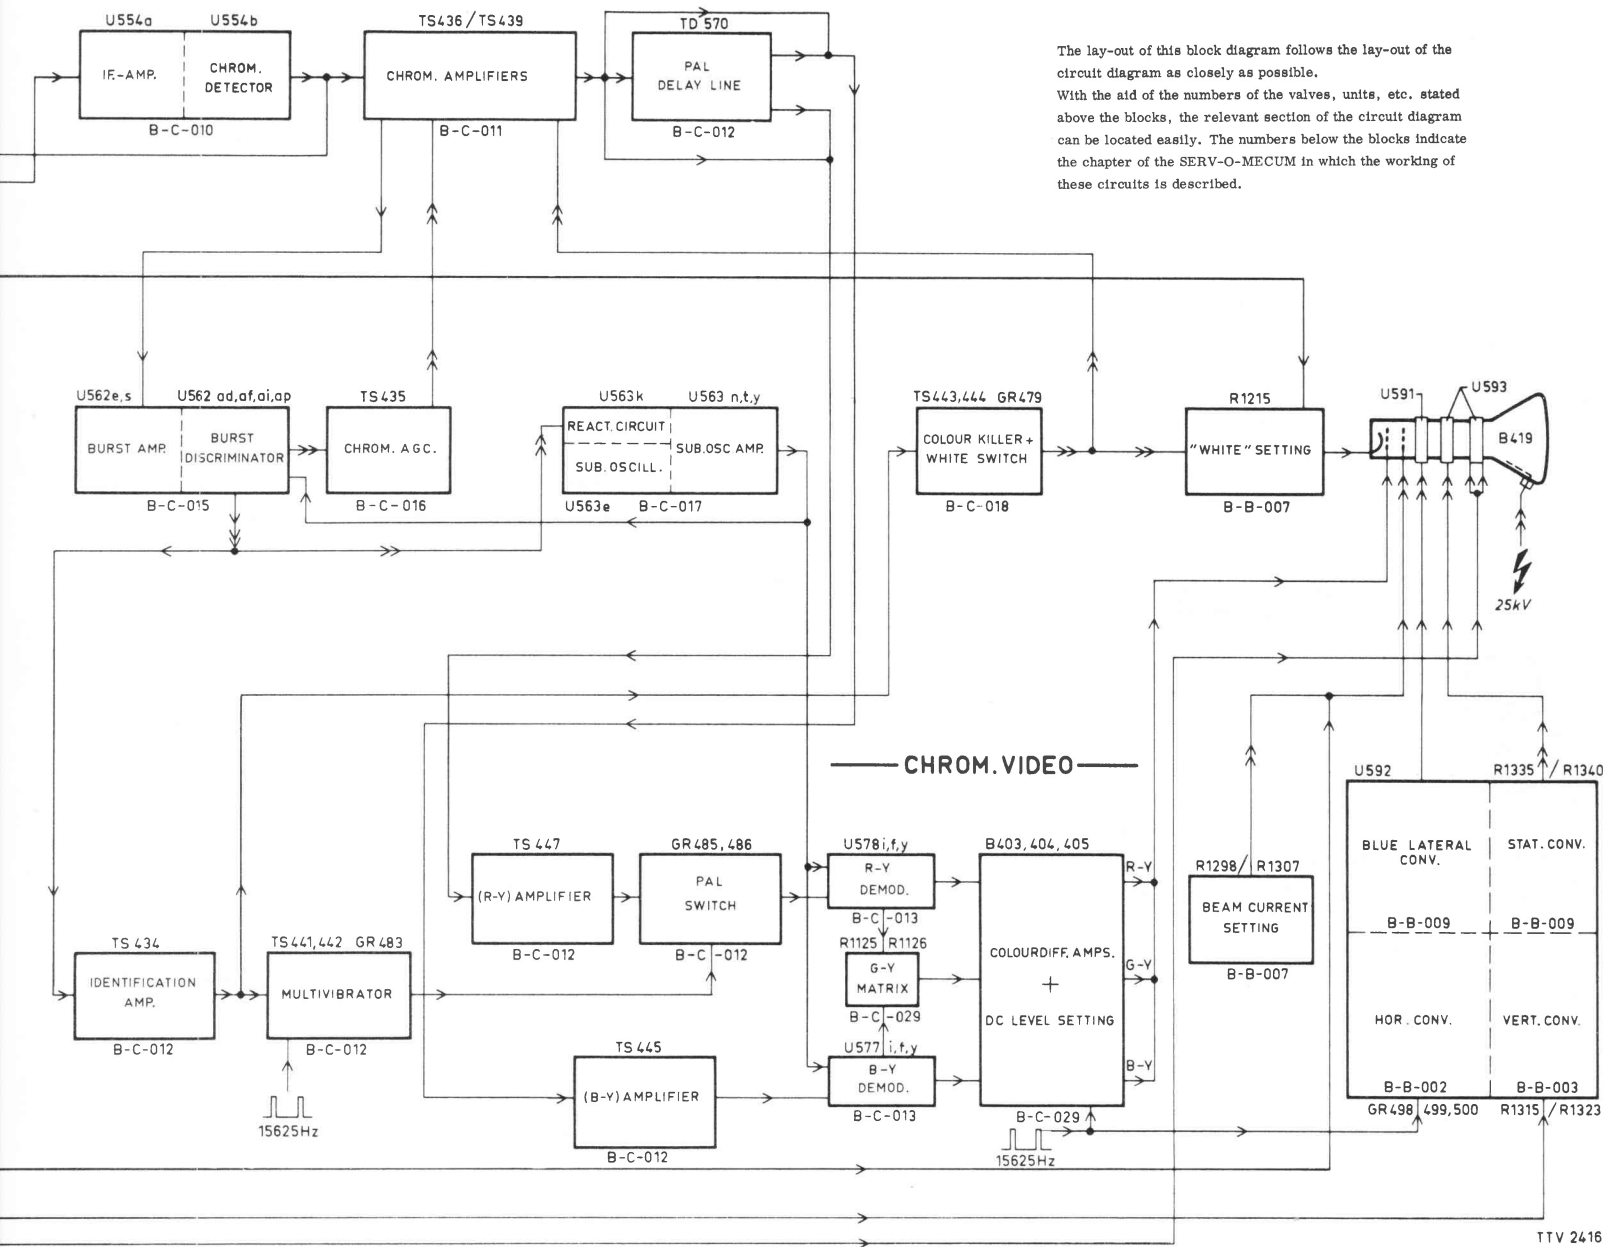

Fig. 3
1 Adjusting for a straight picture (see Fig. 3)
2 Focusing (see Fig. 3)
3 Pin-cushion correction (see Fig. 3)
4 Horizontal linearity (see Fig. 3)
5 Vertical linearity (see Fig. 3)
6 Picture height (see Fig. 3)
7. Static convergence (see Fig. 3)
- Switch off the blue gun with SK11, see Fig. 3. Make the red and green patterns coincide in the centre of the picture by means of knob 1a and knob 1b. Thus a yellow pattern is obtained. Switch on the blue gun again.
Note: If no satisfactory result is obtained, it is possible to interchange the terminals S1-S2 of the blue lateral unit, see Fig. 3.
8 Centring (see Fig. 3)
9 Colour purity (see Fig. 3)
If the centre horizontal green and red lines intersect, turn the core of S604 (see Fig. 3) until the lines are parallel as far as possible or until they coincide. Switch on SK11.
Note: If no satisfactory result is obtained it is possible to interchange the terminals R1-R2 of the blue lateral unit, see Fig. 3.